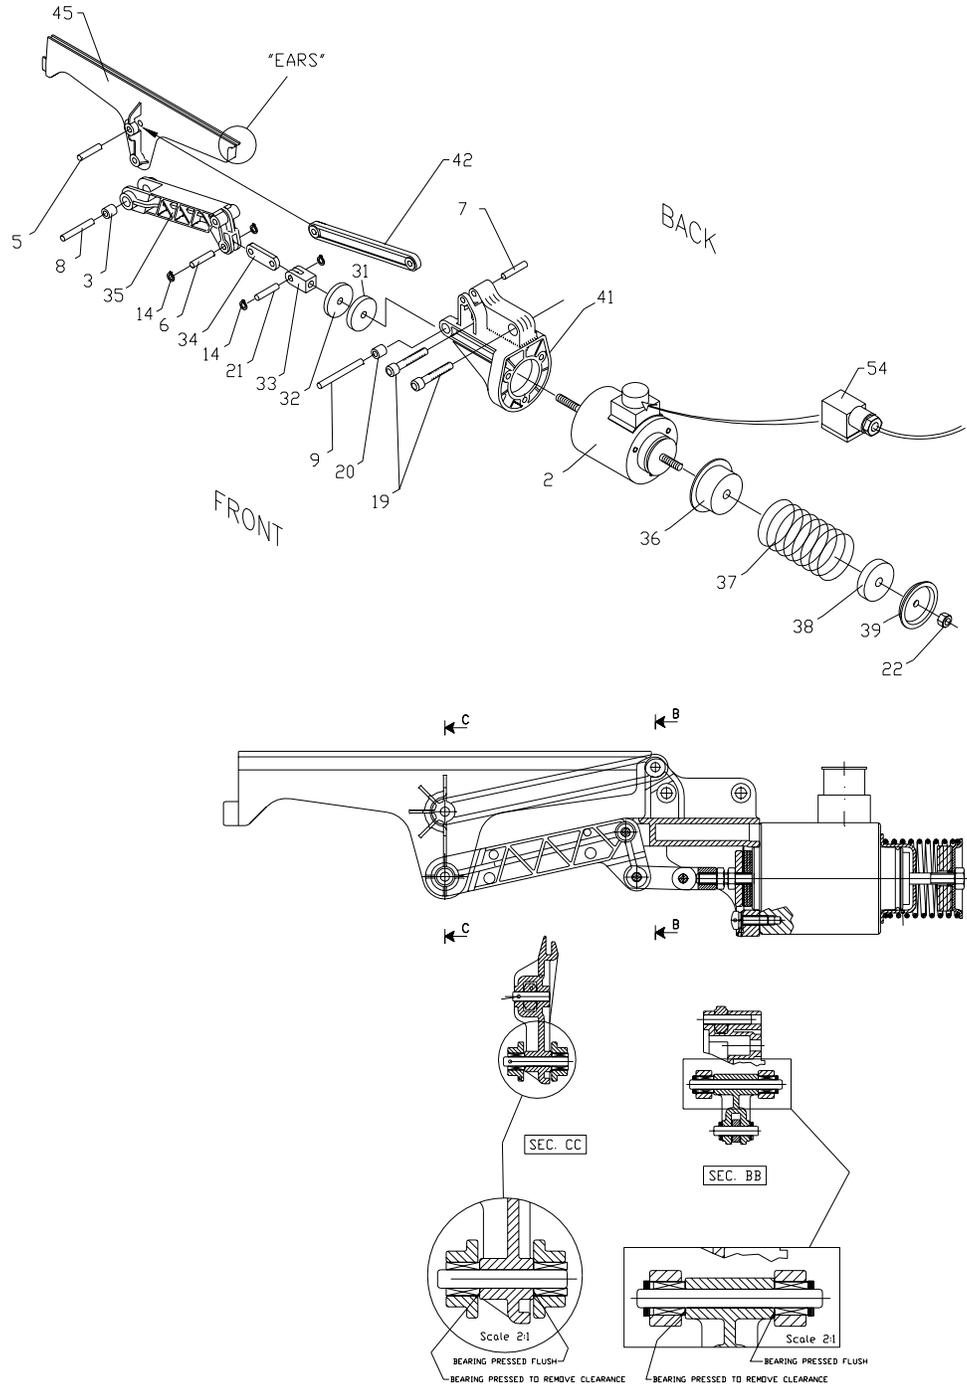

Figure 7-41: Cutting Channel Replacement
Refer to Figure 7-41.
10. The bearings at the forked end of the channel drive lever should be positioned as shown in the auxiliary view of Figure 7-41. Doing so prevents the cutting channel moving toward the front and striking the knife during the film cut.
11. The bearings at the mounting end of the channel drive lever should be positioned as shown in the auxiliary view of Figure 7-41. Doing so prevents the cutting channel moving toward the front and striking the knife during the film cut.
2. If an impact is heard, loosen the jam nut (Item 22, Figure 7-41) holding the adjustable solenoid stop (Item 39, Figure 7-41.)
3. Thread the solenoid stop (Item 39, Figure 7-41) further onto the plunger shaft until the solenoid just stops impacting internally.
- Loosen the two mounting screws (Item 19, Figure 7-41.)
5. Loosen the jam nut securing the clevis (Item 33, Figure 7-41).
4. Loosen the jam nut securing the solenoid stop (Item 32, Figure 7-41).
6. Repeat the measurement and adjustment until the correct distance is reached. As a rule of thumb, when the low position is properly set, there is less than 1mm of clearance between the "ears" on the front end of the cutting channel and the solenoid mount (Item 41, Figure 7-41).